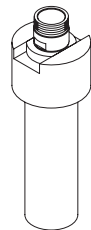

Fig. 9
- ③ Attach the collet chuck and chuck nut to the collet holder, and lightly finger tighten. (Do not tighten until the end.) (Fig. 9)